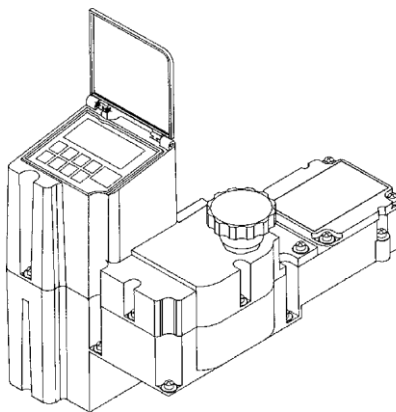

Figure 37 – Installation Orientation
13. Locate the face on the bottom of the DLC that mates with the face of the lip of the gear box. The DLC is normally oriented such that the control pad and display sit to the left of the pump's reagent head (as viewed standing in front of the reagent head looking at the motor). The conduit connections and access panel (with Serial Tag) reside at the rear of the pump near the gear box (refer to **Figure 37**).
16. Install the 4 DLC to gearbox mounting screws (refer to **Figure 37**).